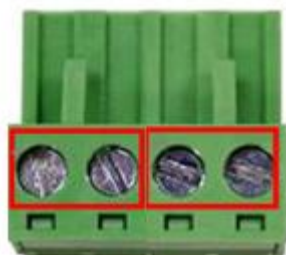

Figure 2.9
2. Tighten the wire-clamp screws to prevent wires from loosening as shown below in *Figure 2.9*.